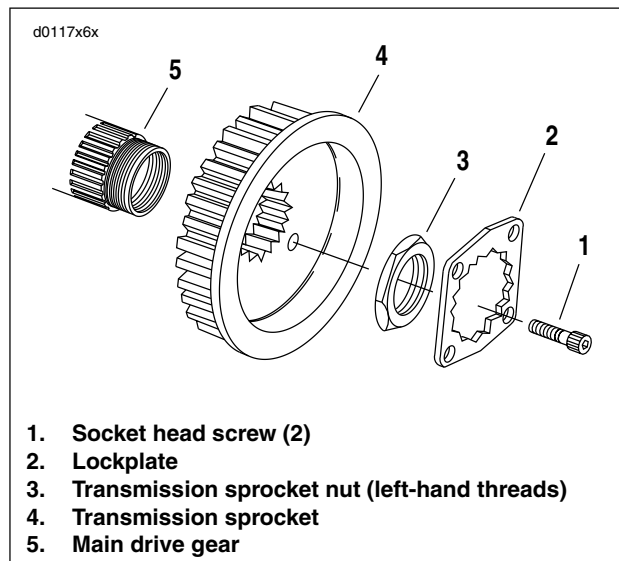

Figure 6-97. Transmission Sprocket
8. See Figure 6-97. Place transmission in first gear. Remove two socket head screws (1) and lockplate (2).
1. See Figure 6-97. Install transmission sprocket (4) with secondary drive belt onto main drive gear (5).
3. Apply a few drops of LOCTITE 262 (red) to the **left-hand threads** of transmission sprocket nut (3) and lightly coat the washer-faced side with clean H-D 20W50 engine oil. Wipe off any excess oil.
9. See Figure 6-97. Install lockplate over nut so that two of lockplate's four drilled holes (diagonally opposite) align with sprocket's two tapped holes.
10. See Figure 6-97. Install two socket head screws through aligned holes of lockplate and into tapped holes of sprocket. Tighten to 90-110 in-lbs (10.2-12.4 Nm).